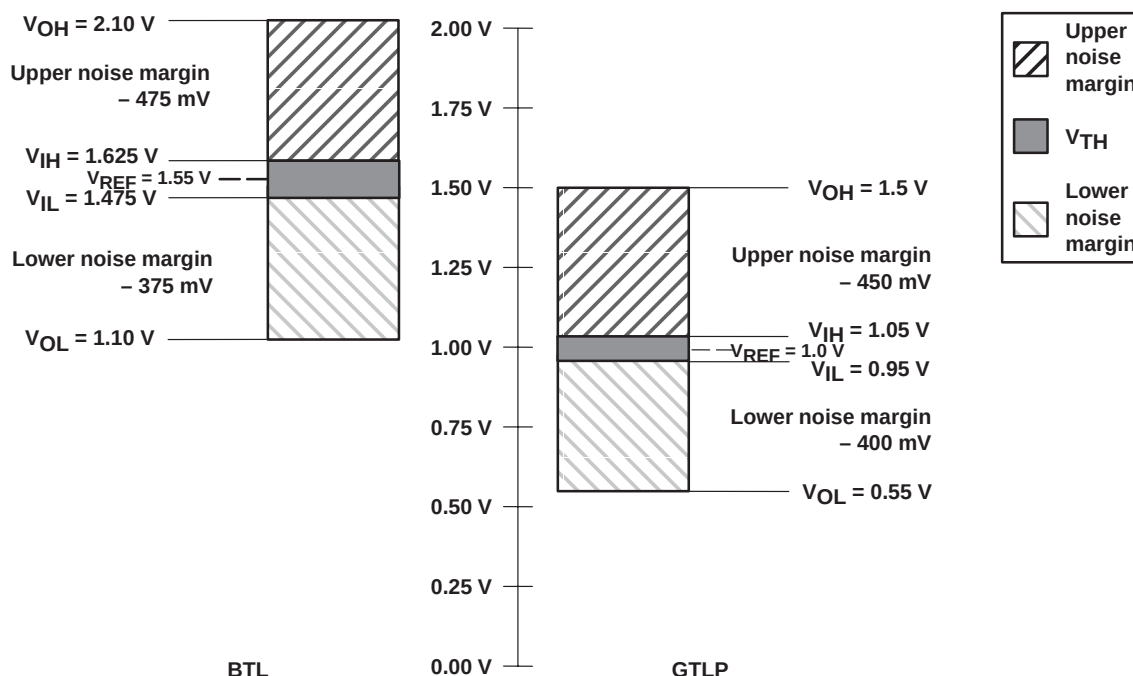

Figure 4. BTL and GTLP Signal-Level Comparison
- Signal levels – Signal levels are not compatible (see Figure 4). The level of noise margin is about the same; only the input thresholds of operation are different. As discussed in the following paragraphs, GTLP devices can operate at BTL signal levels by changing  $V_{REF}$  to 1.55 V and raising  $V_{TT}$  to 2.1 V.